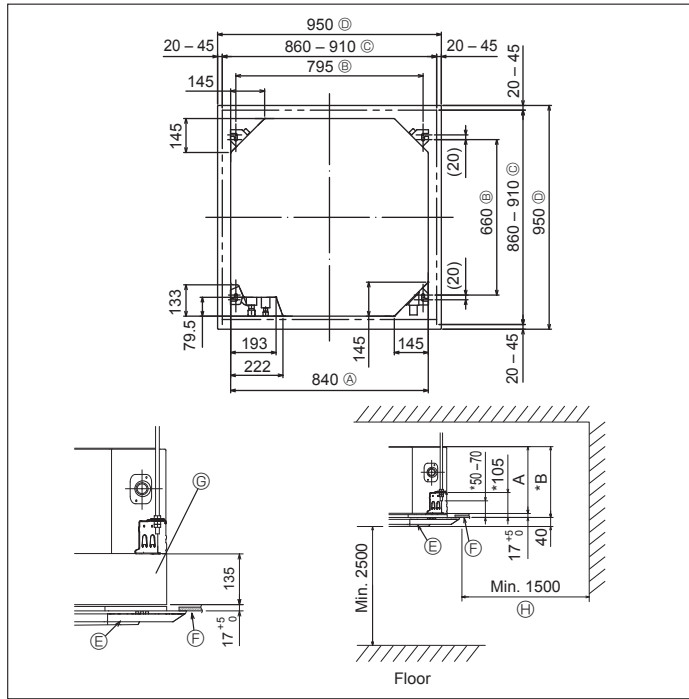

Fig. 3-2
3.2. Ceiling openings and suspension bolt installation locations (Fig. 3-2)
- The dimensions of ceiling opening can be regulated within the range shown in Fig. 3-2; so center the main unit against the opening of ceiling, ensuring that the respective opposite sides on all sides of the clearance between them becomes identical.
- (A) Outer side of main unit
- (B) Bolt pitch
- (C) Ceiling opening
- (D) Outer side of Grille
- (E) Grille
- (F) Ceiling
- (G) Multi functional casement (option)